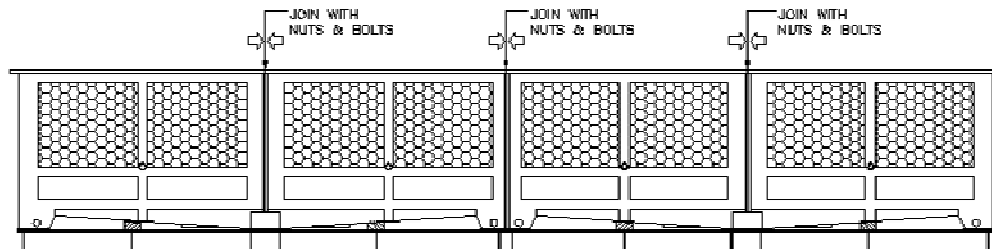

Figure A-25: Basin Section Installation
- G. Proceed to place **Basin Section 2** on top of the structural base, making sure that the anchorage holes are aligned. Bolt the vertical flanges of Basin Sections 1 & 2 together using first the galvanized steel bolts and nuts (supplied by REYMSA) to join sections. Then replace the galvanized steel bolts with the stainless steel nut and bolt sets supplied by REYMSA. Then proceed to bolt down and secure Basin Section 2 to the structural base with the stainless steel nut and bolt sets *supplied by others* (see Figure A-24). Repeat until all Basin Sections have been installed (see Figure A-25)